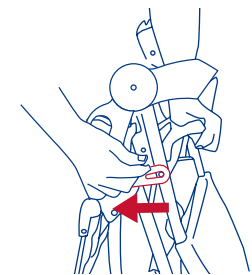

Fig. 21a
21) • Release the folding latch, which is located on the right side (Fig. 21a).